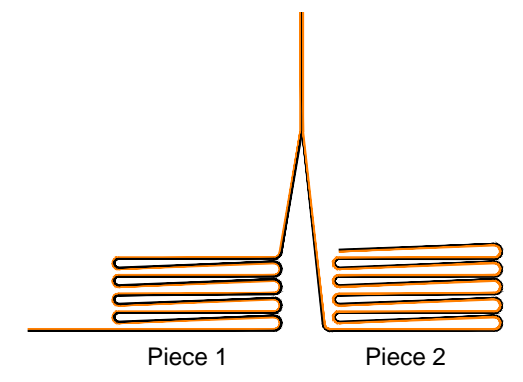

FIGURE 3
2. LIFT UP THE NEXT PANEL OF PIECE 1 AND THE TOP PANEL OF PIECE 2 HOLDING THE PANELS TOGETHER BLACK TO BLACK, (FIGURE 3)